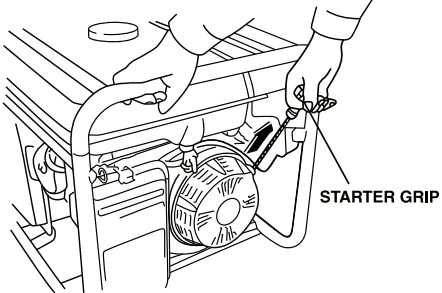

FIGURE 12
5.2.6 If the battery does not start. Hold the top handle securely and pull the recoil starter grip until you feel resistance, then pull briskly. **FIGURE 12.**